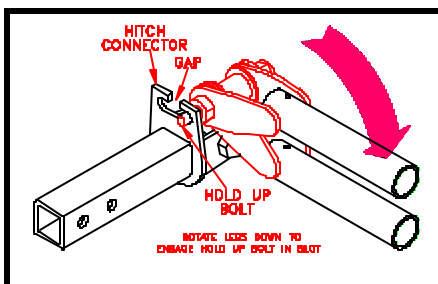

Figure 6
3. With legs together, swing them up towards the towing vehicle until the hold up bolt passes through the gap in the hitch connector. (Figure 6) Rotate the legs down to either side until the hold up bolt engages completely to the side of the hitch connector slot.